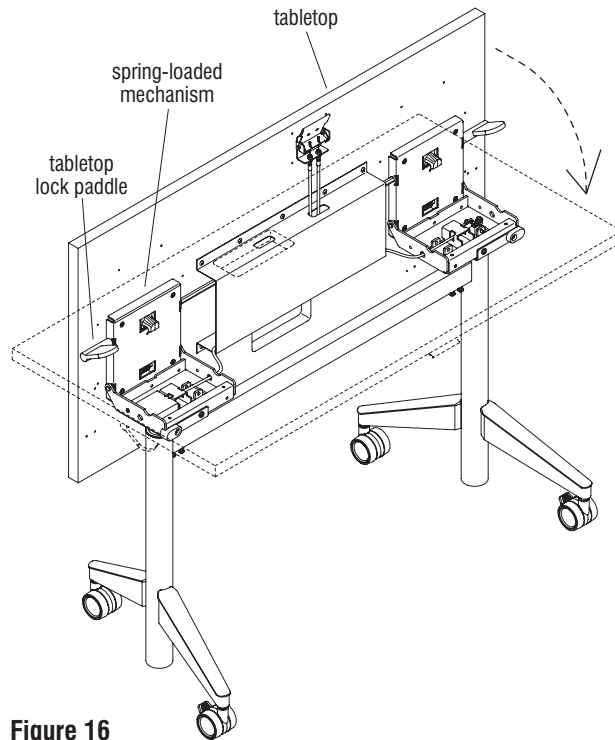

Figure 16
46. Carefully close the spring-loaded mechanisms by folding the tabletop down from the nesting position to be level (Figure 16).